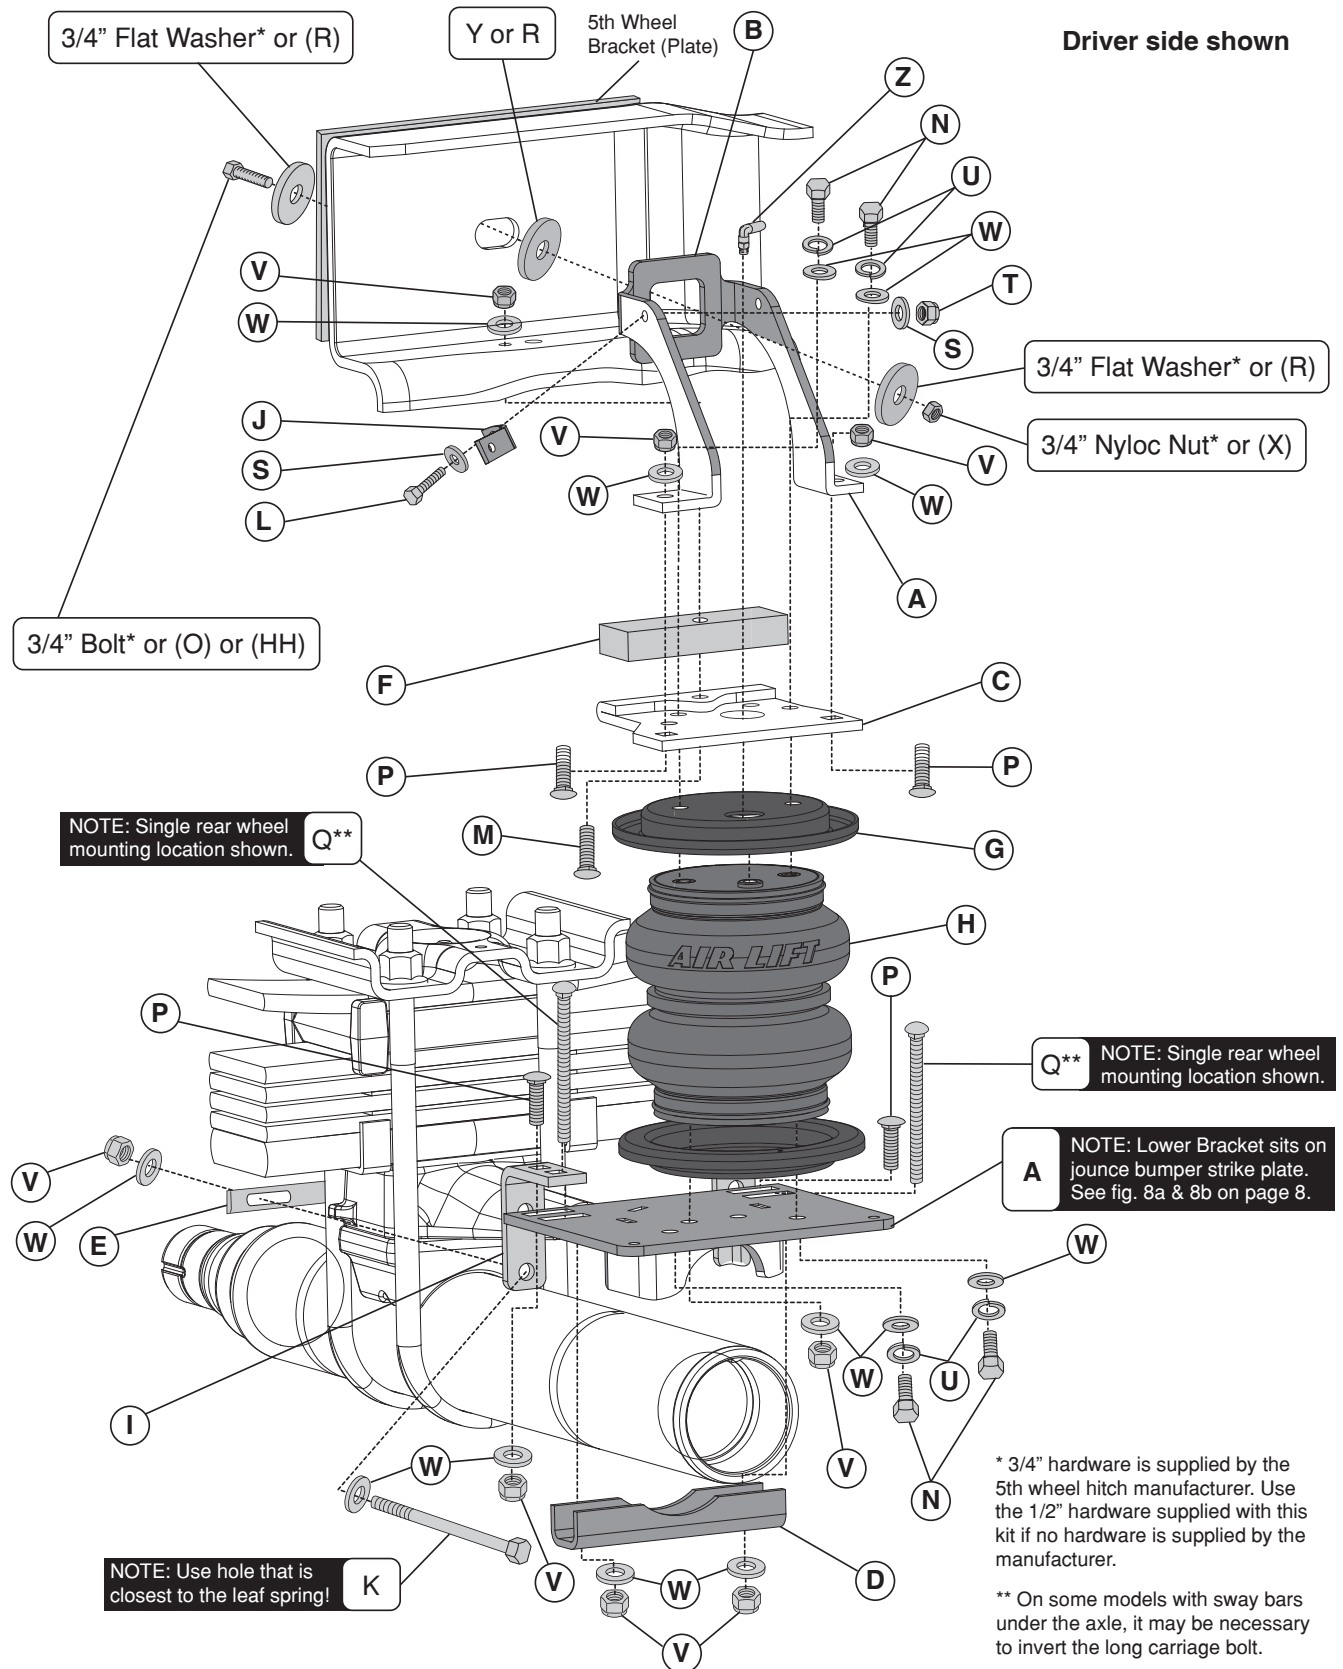
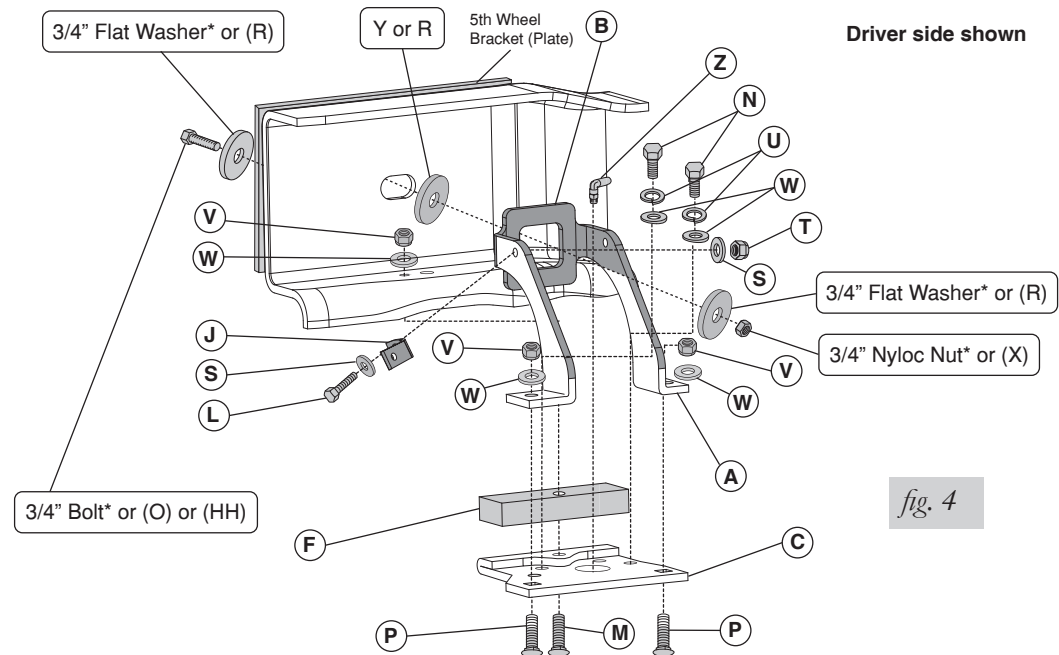

fig. 1
fig. 4
5. If you have a fifth wheel hitch already installed, it will be necessary to remove the 3/4" hardware that bolts the side bracket to the outside of the frame above the axle (fig. 1).
- *Attach the L-bracket (J) to the back frame brace using the 1/4" bolt (L), flat washers (S) and nyloc nut (T) supplied (Fig. 1). This L-bracket will eventually be used to attach the previously removed emissions line. Do not attach the line holder to it at this time.*
1. Set the upper brace (B) into the driver and passenger side frame (Fig. 4).
If you have an aftermarket fifth wheel hitch that has a bracket (plate) running alongside of the frame and it used the slot to secure the bracket to the frame with existing hardware, install the existing hardware previously removed in the “getting started section” from the fifth wheel installation for securing the brace (Fig. 4). Make sure to install the large 3/4” flat washer (Y) between the brace and the frame (Figs. 1 & 4). Do not tighten at this time.
1. Set a roll plate (G) over the top and bottom of the bellows (H) (Fig. 1).
2. Set the left (driver side) assembly onto the jounce bumper strike plate (Figs. 8a & 8b). Raise the axle just enough to insert the long carriage bolt (M - that is installed in the upper bracket) through the existing jounce bumper hole in the bottom of the frame. At the same time, line up the upper brace previously installed onto the remaining two carriage bolts (P) in the upper bracket. Do this just enough for the carriage bolt to hold the assembly into position on the jounce bumper strike plate (Figs. 1 & 8b).
3. Set the right (passenger side) assembly into position on the axle the same way the left side was positioned (Fig. 1).
4. Raise the axle or lower the frame down so that the thick spacer (F) on the upper bracket is parallel to, and contacts the frame (on both sides).
5. Install the 3/8" flat washer (W) and a 3/8"-16 nyloc nut (V) on the carriage bolt (M) that went through the existing jounce bumper hole and tighten securely on both sides (Fig. 1).